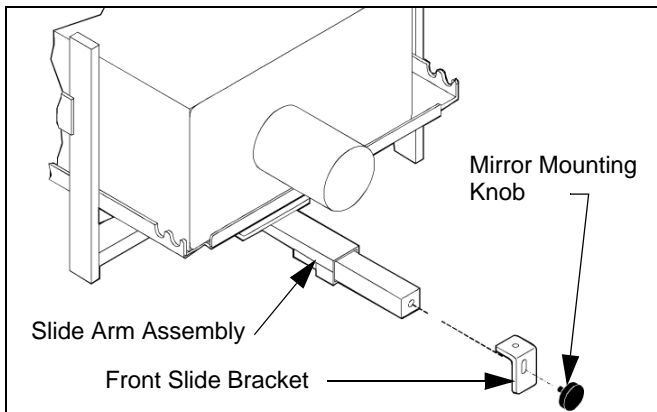

Figure 5: Install MA-130 Mirror Attachment
2. Attach Front Slide Bracket to Slide Arm Assembly using Adjustment Knob. (see Figure 5:)